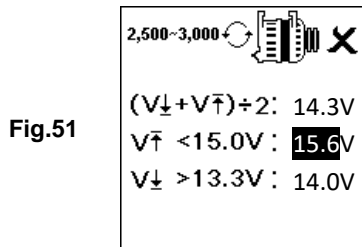

Fig.51
- If either minimum or maximum charging volts are not within the voltage range limits then it will display one of the screens as below (Fig.51 & 52) and it will highlighted which prompt you to check the charging system for the fault.